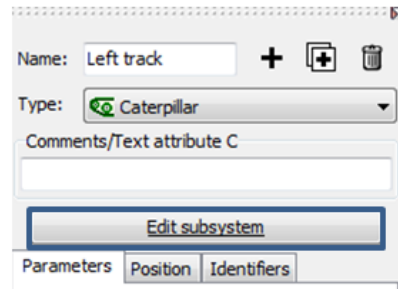

Figure 1.19. Button for editing the subsystem
1. Use the **Edit subsystem** button to open a window with description of the track, Figure 1.19.